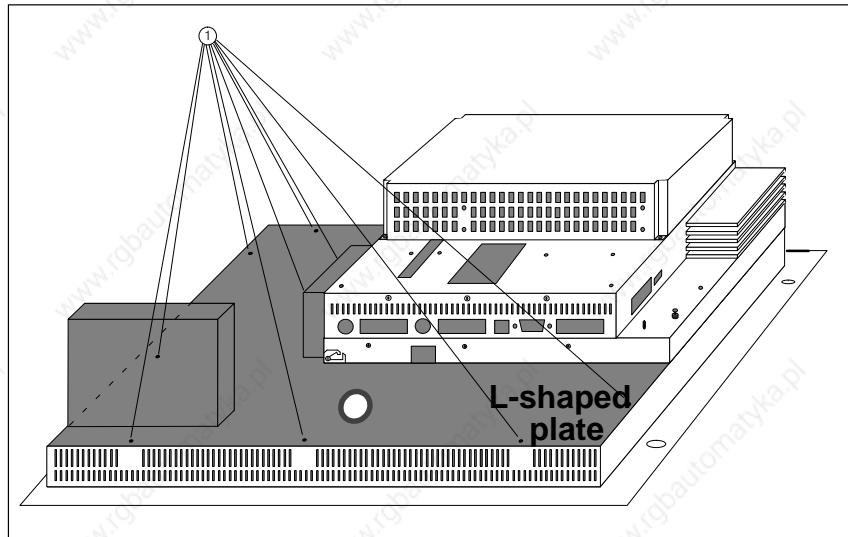

Figure 6-3 Removing the L-shaped plate.
2. Release the nine screws marked in Figure 6-3 with the number ① from the L-shaped plate; two of them are on the cover plate next to the PCMCIA slot.
3. Remove the L-shaped plate shaded grey in Figure 6-3.
**Folding out PC box** To replace the backlighting, the PC box must be folded out after the L-shaped plate has been removed (see Figure 6-3).